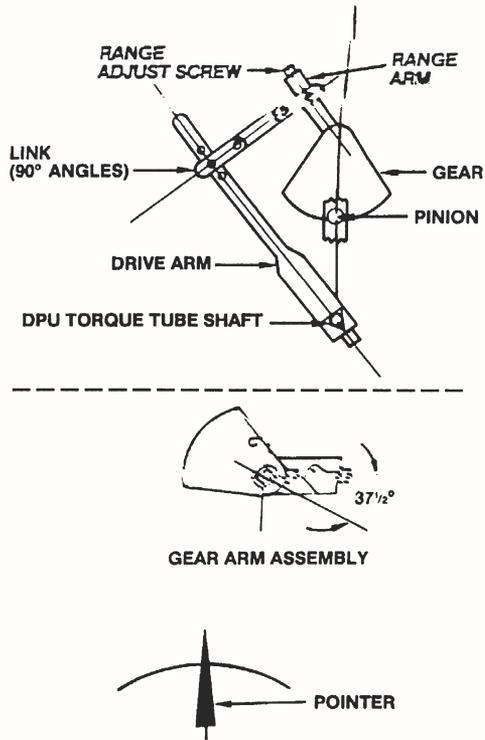

Figure 5-1. Linkage Assembly at 50% Differential Pressure
4. Apply 0%, 50% and 100% of full scale pressure (see Figure 5-1). If indication is within the specified limits, no further adjustments are necessary. If the zero indication is incorrect, remove the bezel and glass assembly, and adjust the pointer by turning the pointer by the hub.